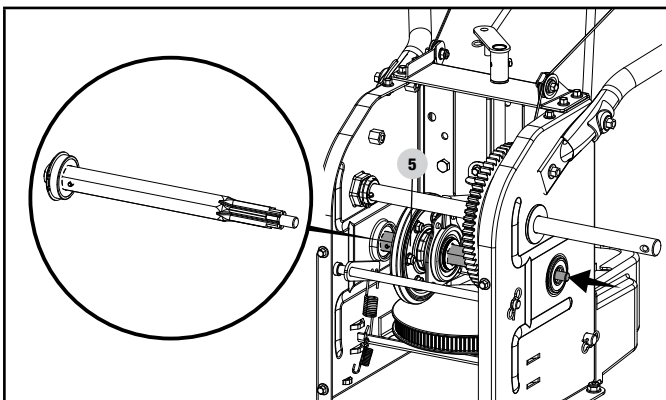

Figure 50
5. Carefully position the hex shaft downward and to the left before carefully sliding the friction disc assembly (5) off the shaft (Fig. 50).